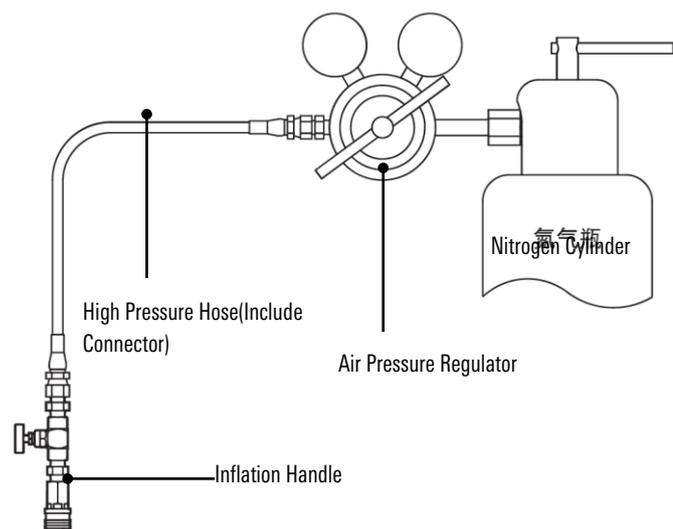

Figure 13-13 Inflation tool of the nitrogen spring
- Prepare the inflation tool of the nitrogen spring: nitrogen cylinder (pressure is more 15MPa), nitrogen filling tool, charging valve, air pressure regulator, high pressure pipe, referring to Figure 13-13.